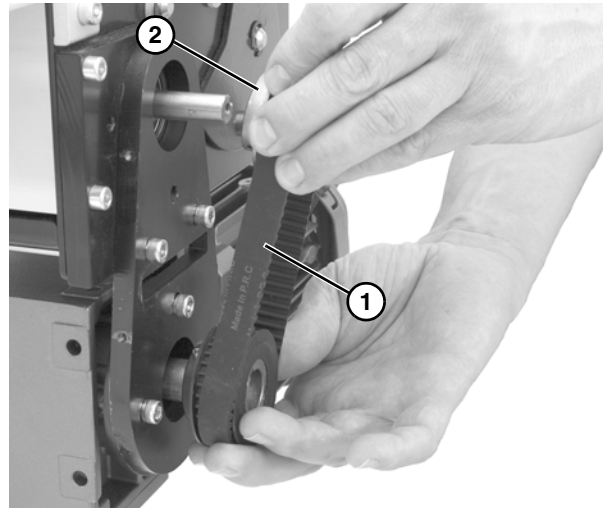

Figure 20
3. Remove timing belt (Figure 20, item 1).
If timing belt does not slide over pulley flange, loosen driven pulley set screws (Figure 20, item 2) and remove pulley with belt. For re-installation, see steps 6 and 7 on page 8.